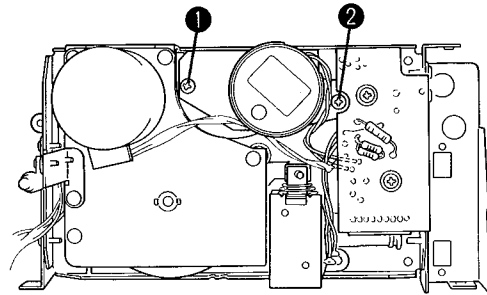
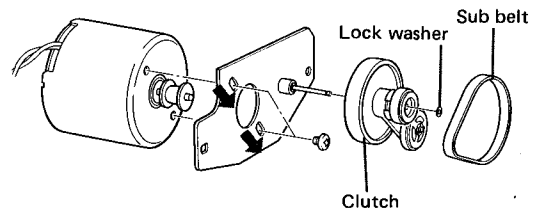

Fig. 14
Fig. 15
1. Remove the reel motor assembly from the mechanism by removing screws 1 and 2 in Fig. 14.
2. When installing the new motor, push it in the direction of the arrows in Fig. 15. (See Fig. 14 for wiring.)